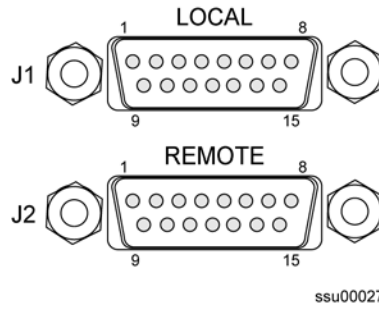

Figure 2-12. Alarm Contact Closures and Pin Assignments
The SSU-2000e Shelf has two filtered DA15P male connectors for local and remote alarm contact closure connections, as shown in Figure 2-12. The local connections are made on J1 and the remote connections are made on J2. The connectors are labeled ALARM CLOSURES, LOCAL (J1) and REMOTE (J2). They each have connections for normally open (NO), common or wiper (COM), and normally closed (NC) for each of these alarm categories: CRITICAL, MAJOR and MINOR.